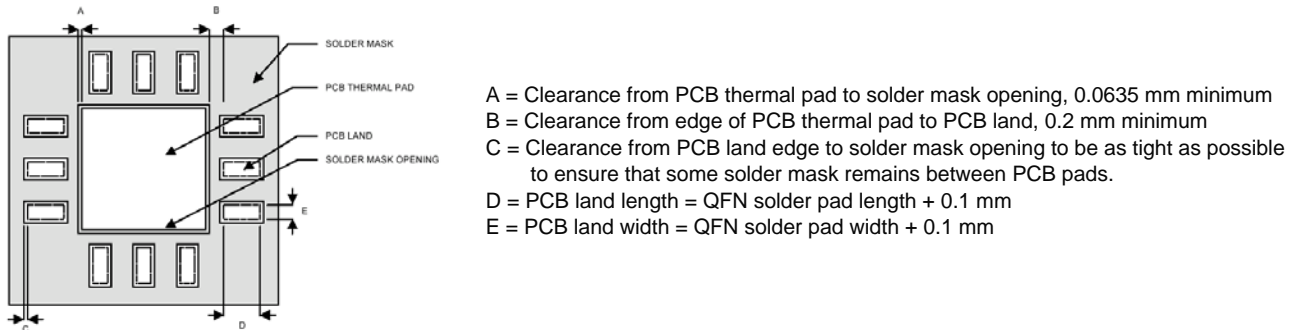

Figure 6. PCB Land and Solder Mask Recommendations
1. PCB land and solder masking recommendations are shown in Figure 6.